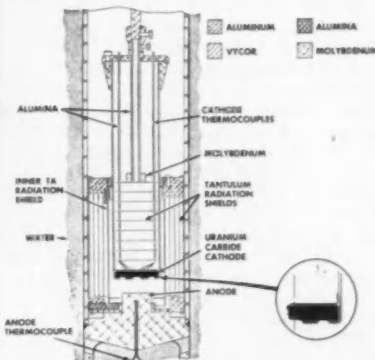

Fig. 1—Noble gas plasma diode in reactor test chamber.
**T**HE direct conversion of nuclear fission heat to electricity in a plasma diode that utilizes a new mode of plasma generation is being studied. Fission fragments from a uranium-bearing cathode are used to produce a plasma of relatively low fractional ionization in a noble gas (Fig. 1).